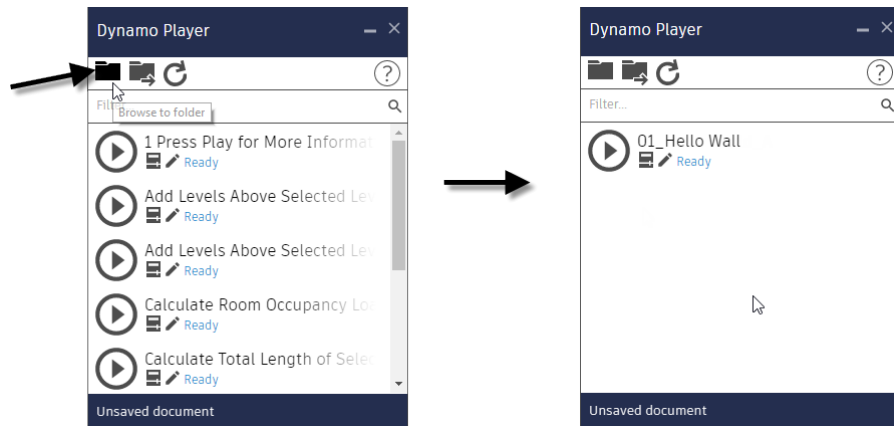

Figure 3
5. Browse to: **[Local location of the lab datasets]**4 and then click OK (see Figure 3).